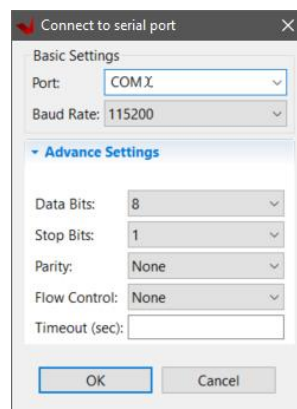

Figure 26
5. Leave **Timeout (sec):** blank (Figure 26)